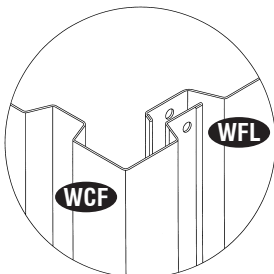

Fig.1
5. Insert two pieces of (TS) Top slider into the
**Note** *Make sure the position of the projection on (TS) towards inside.*
**Note** *Make sure the overlapping position is as shown in fig.1*